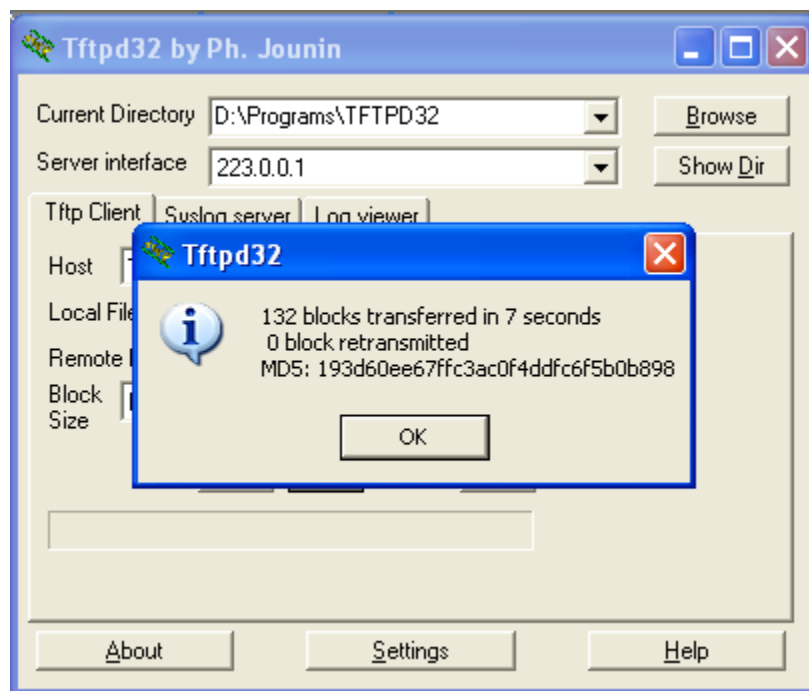

Figure 10 Tftpd32 utility, firmware transfer finish message window
- 3.1.6. After firmware file has been found, press “Put” button, it begin firmware upgrade process. If all sequence, that is described above, has been done successfully, after number of second delay you will see that yellow LED is blinking – this indicate that firmware upgrade process is running. After firmware process is finishing, yellow LED is switched off and data transfer finish message window is appearing (see **Figure.10**)